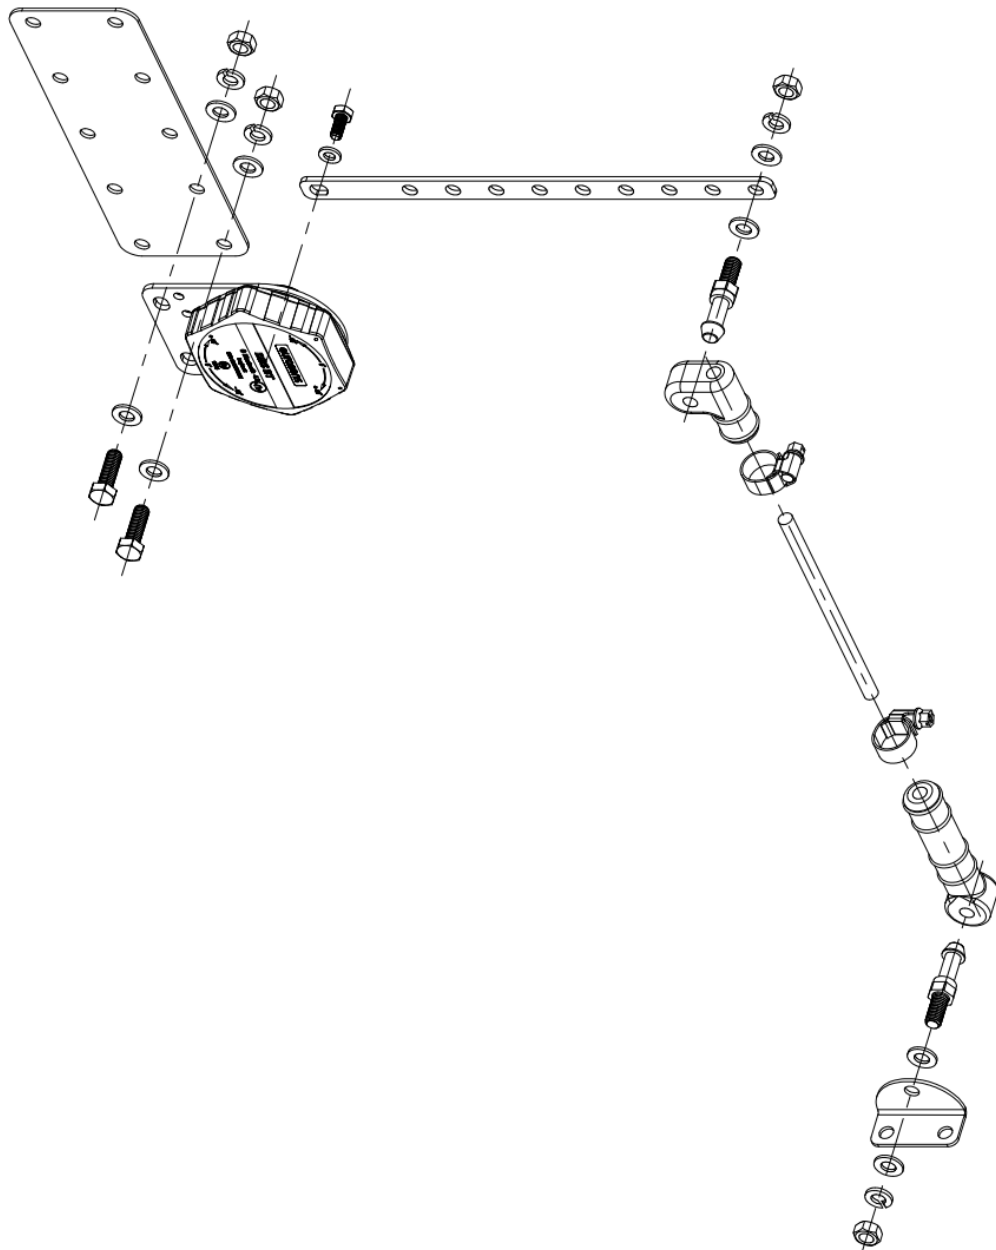

fig. 3.2. Diagram of eurosens DDS connecting levers
- 2) While installing the sensor on a vehicle frame, mount the lower end of the lever to the unsprung element of the bridge axle using brackets from the mounting kit (fig. 3.2).